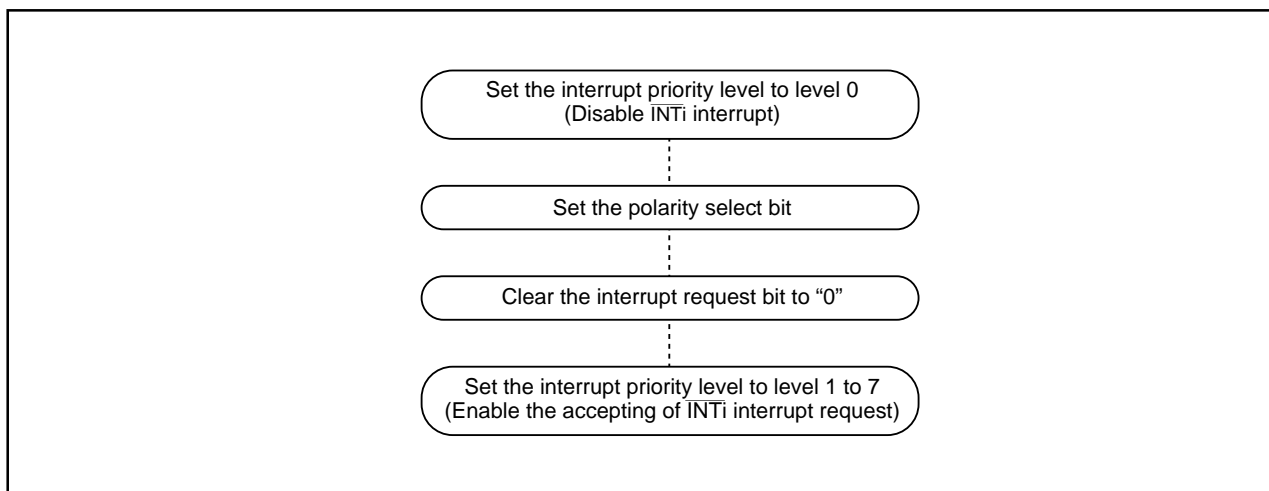

Figure 1.9.12. Switching condition of INT interrupt request
- When the polarity of the INT0 to INT5 pins is changed, the interrupt request bit is sometimes set to "1". After changing the polarity, set the interrupt request bit to "0". Figure 1.9.12 shows the procedure for changing the  $\overline{\text{INT}}$  interrupt generate factor.